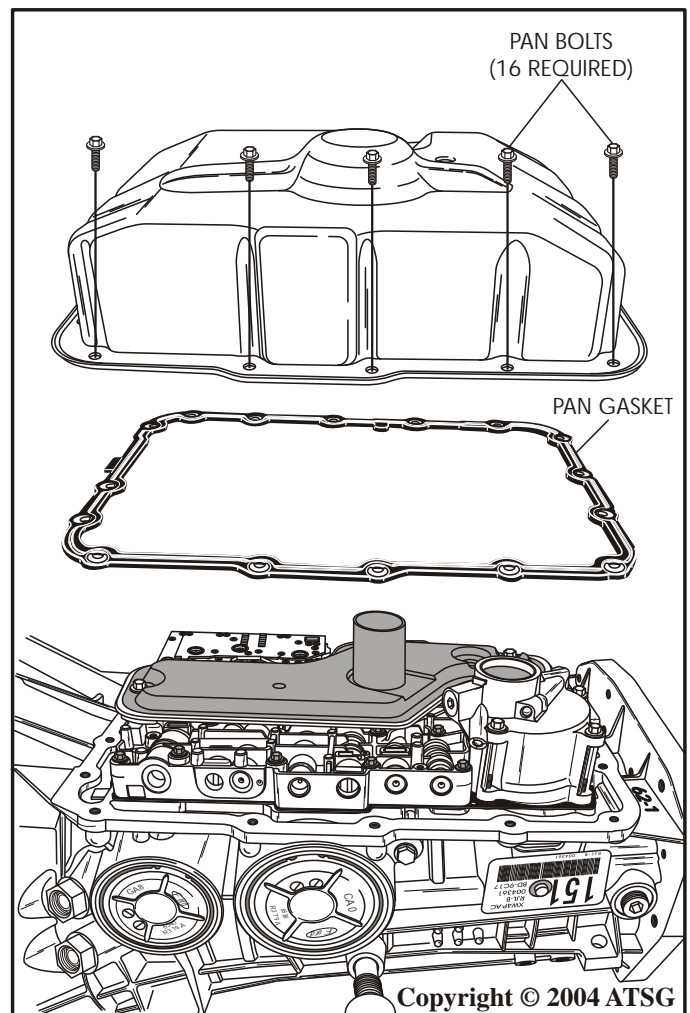

Figure 176
81. Install new pan gasket onto transmission case, as shown in Figure 176.
82. Install the bottom pan assembly and the sixteen bottom pan bolts, as shown in Figure 176, and torque pan bolts to 11 N•m (8 ft.lb.) using the criss-cross pattern.